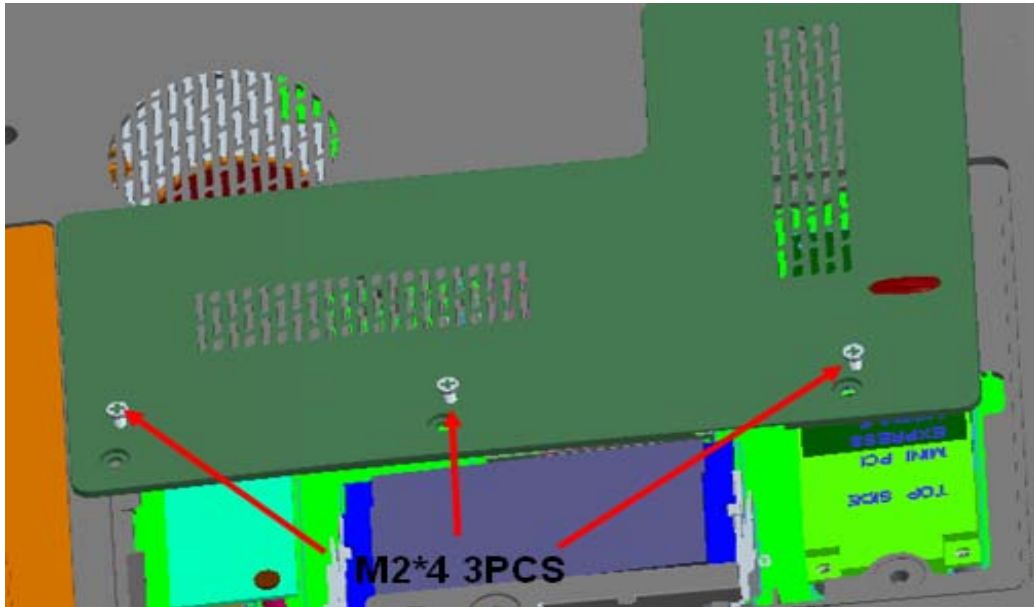

Figure 4-4-1 Remove memory slot cover
To remove a memory module, confirm that the computer is in boot mode. Then perform the following procedure (See Figure 4-4-1 to 4-4-2).
3. Open RAM Door and remove memory slot cover (See Figure 4-4-1)